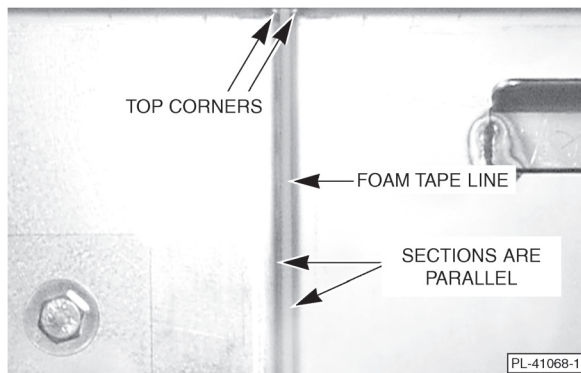

Fig. 10
- Abutted sections are parallel; the foam tape line is vertical (Fig. 10).